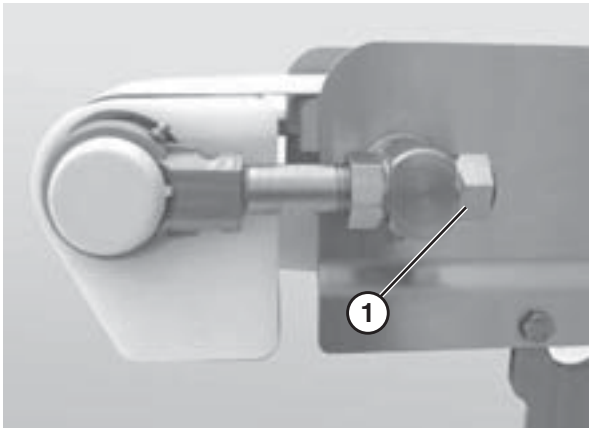

Figure 49
1. Loosen the back nuts (Figure 49, item 1) on both sides of the infeed tail shaft.